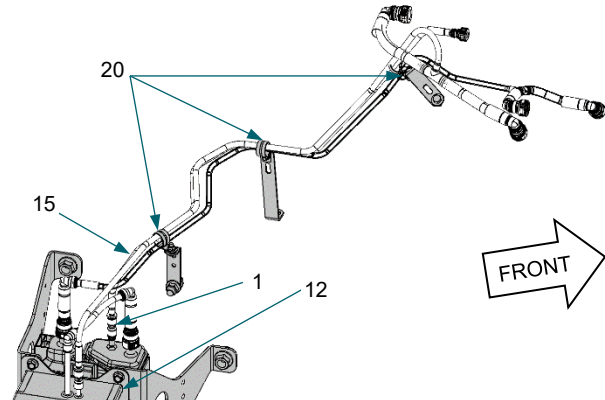

Figure 8: Make-up air line (15), quick connect fitting (1), EVAP pump module (12), P-clamps (20).
2. Remove make-up air line (15) from quick connect fitting (1) on EVAP pump module (12) . *Figure 8*
3. Loosen P-clamps (20) to release make-up air line (15). *Figure 8 Refer to OEM procedure.*